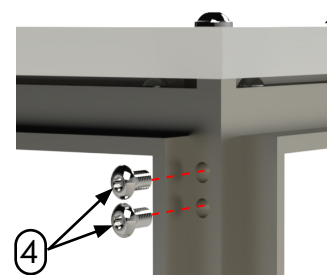

Figure 3
- Fasten screws into each rail corner using a drill and Torx bit (Figure 3).